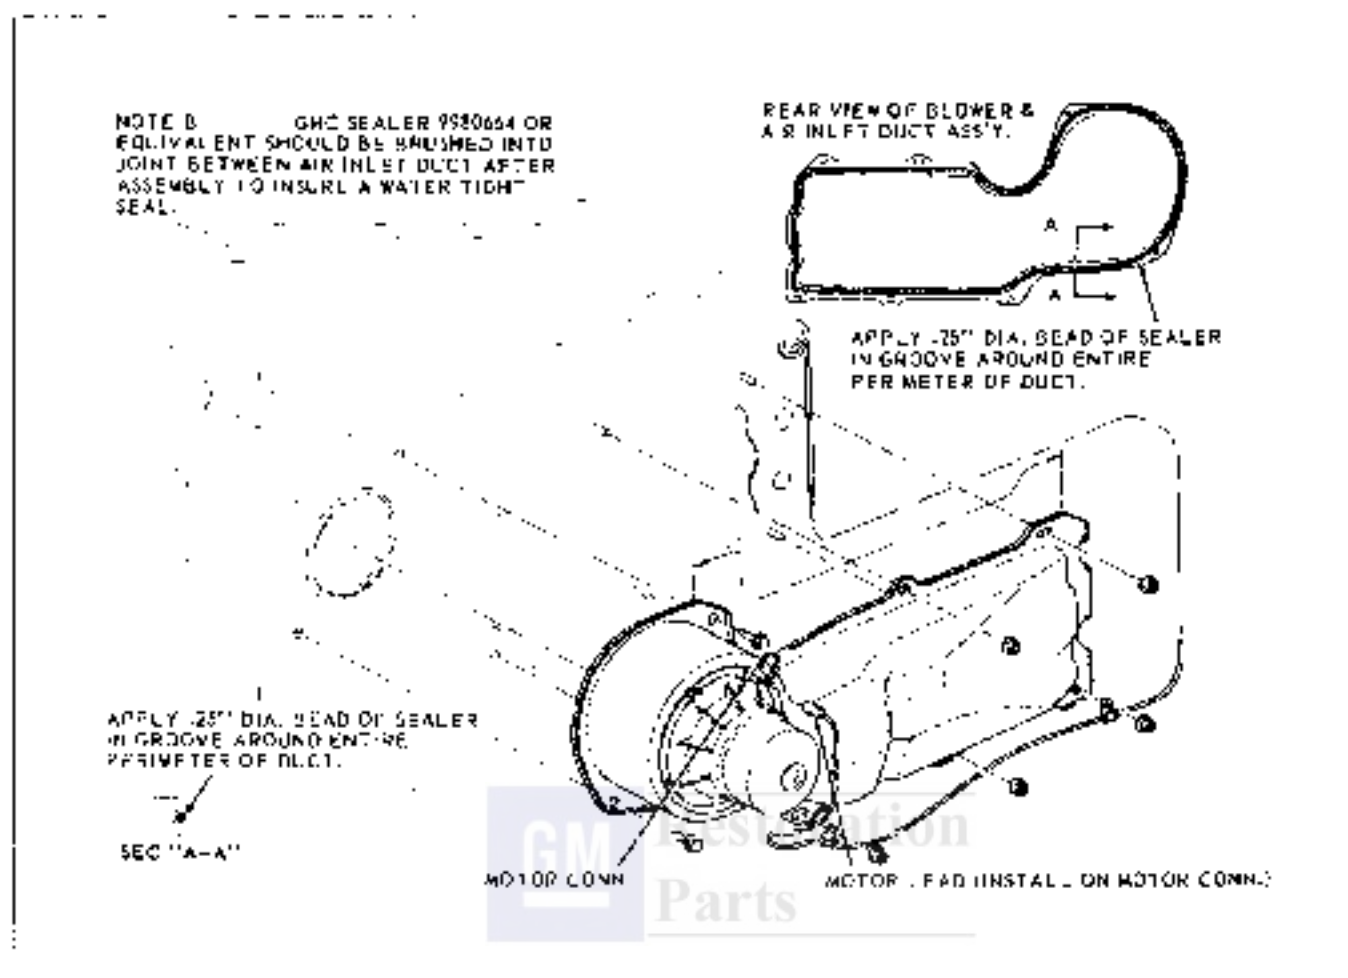

Fig. 1-7 Engine Compartment Details—Pontiac
1. Remove hood hinge to fender retaining bolts (Fig. 1-7).
PONTIAC (Fig. 1-7)
HEATER HOSE INLET AND OUTLET REMOVE AND REPLACE—ALL MODELS (Figs. 1-7, 1-8 and 1-9)